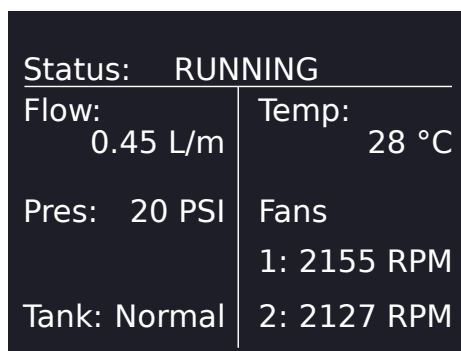

Fig. 18 - Information screen
6. Press and hold the **MODE** button on the cooler to view detailed information on the cooler's LCD screen (*Fig. 18*).